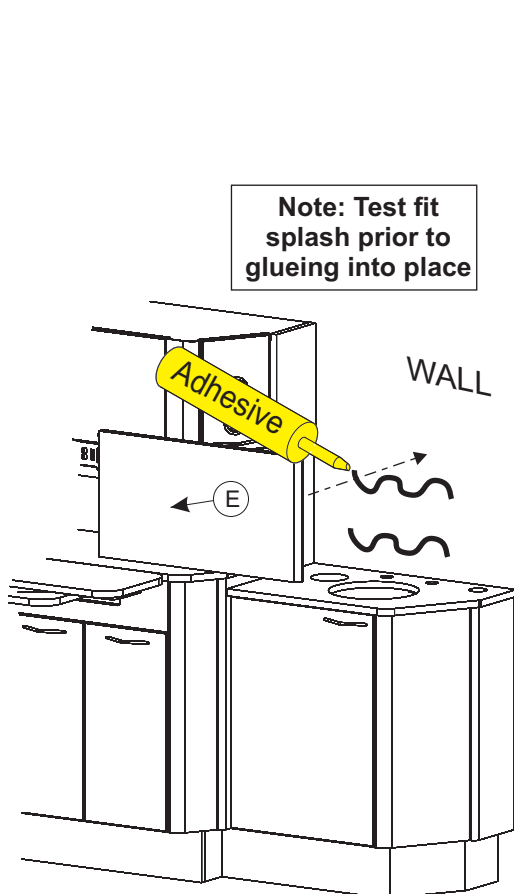

Figure 10
Mount the Lower Sink Cabinet Splash (E) to the wall by applying Adhesive to the wall then place splash into position (see Figure 10).